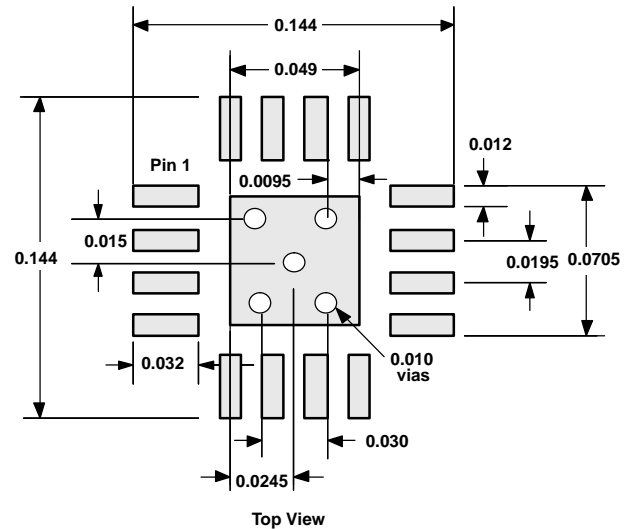

Figure 87. QFN Etch and Via Pattern
9. The THS4513 recommended PCB footprint is shown in Figure 87.